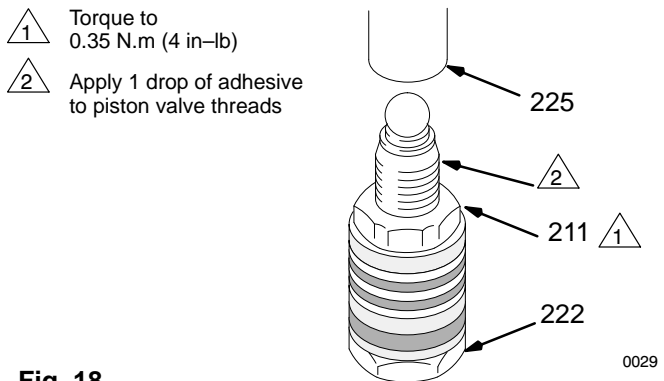
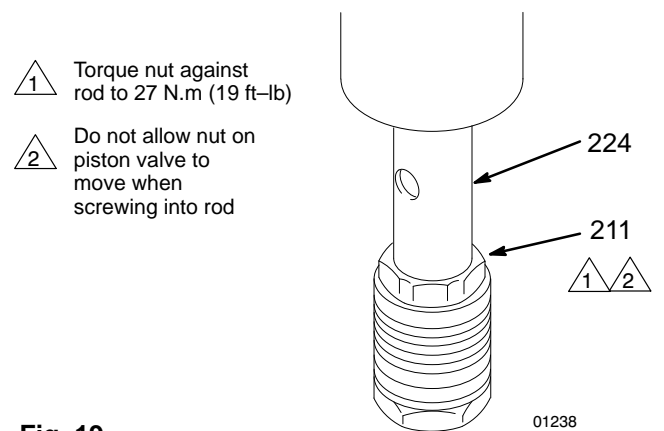

Fig. 18 0029
Fig. 19 01238
3. Tighten the packing retaining nut (211) onto the piston valve (222) to 0.35 N.m (4 in-lb). See Fig. 18.
4. Place the ball (225) on the piston valve (222).
5. Apply one drop of adhesive, supplied, to the piston valve threads. Hand tighten the valve assembly into the piston rod just until the nut (211) contacts the rod.
- NOTE:** Note the alignment of the piston (222) to the nut (211), and maintain it through Steps 6 and 7. Use two wrenches to maintain the alignment.
7. Using two wrenches, **CAREFULLY** tighten the jam nut (211) against the piston rod to 26 N.m (19 ft-lb). See Fig. 19.